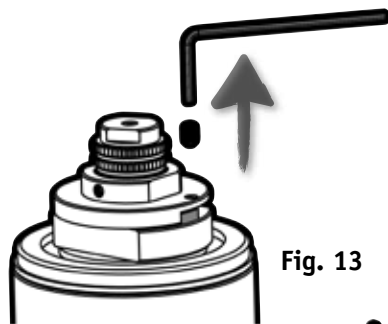

Fig. 13
7) Remove HANDLE STOPPER SCREW 10 from ROTATION LOCK HOLE 13 (Fig. 13)